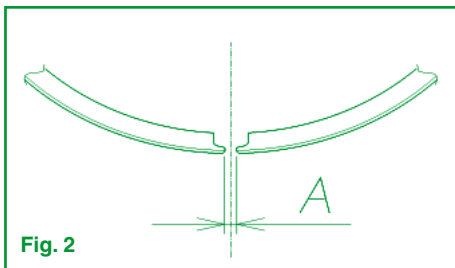

Fig. 2
- c – With a feeler gauge measure the distance between piston ring ends (gap); min. gap: $A = 0.15$ mm see Fig. 2.